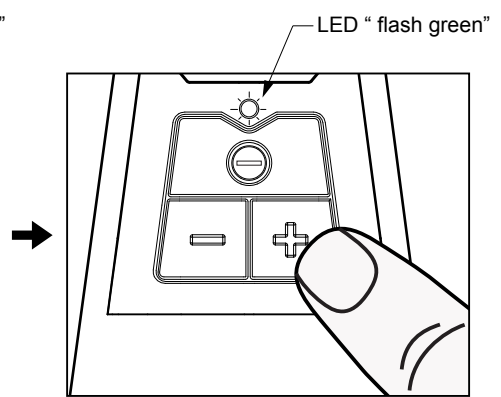

figure 3
3. Adjust the speed by pressing "+" or "-" buttons on the button plate. Press "+" is to raise up to higher speed setting, "-" is to lower the speed setting. - see figure 3.